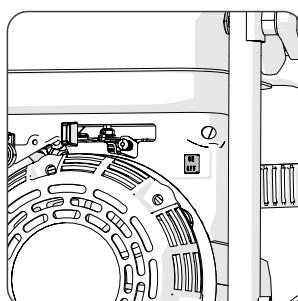

Fig. 4
- Turn the engine ignition switch to the 'OFF' position. (**Fig. 4**)